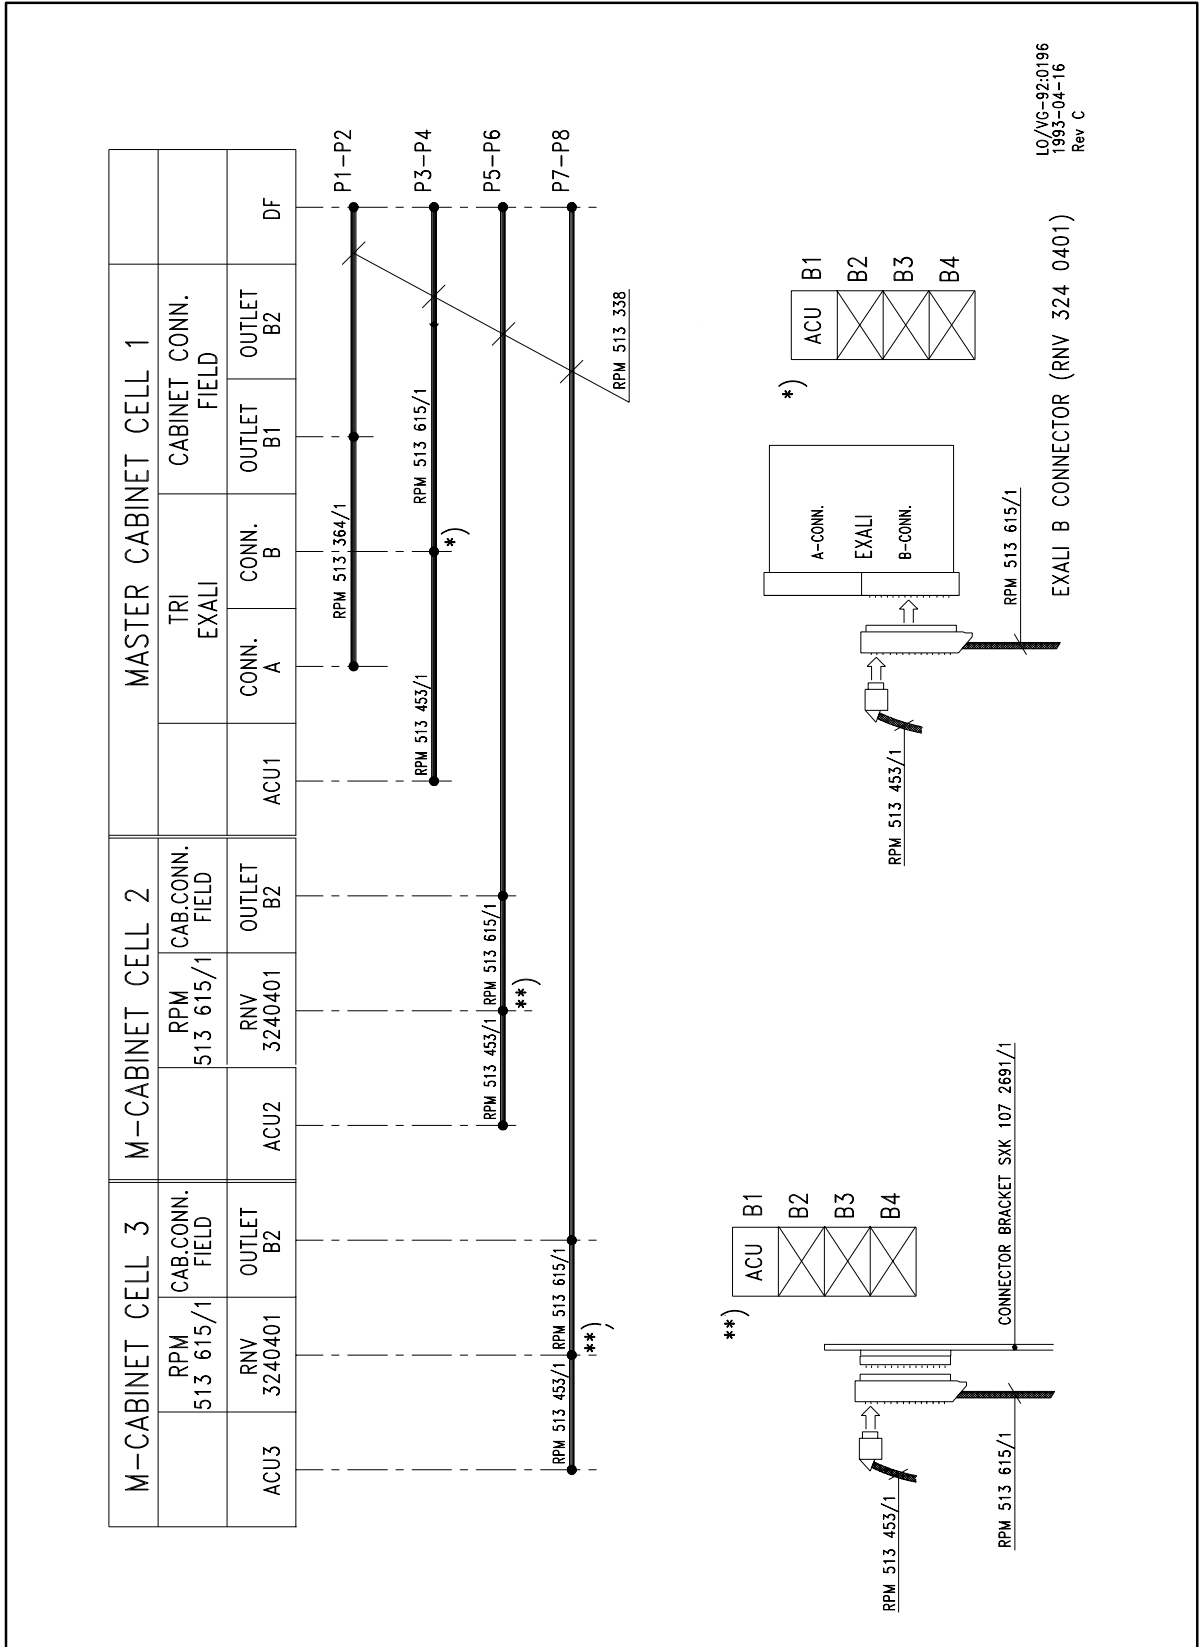

Figure 38 +24 V DC alarm connection cabling diagram
1. Use a prefabricated cable type RPM 513 338 as shown in figure 38. The cable has one end fitted with a connector and the other end free. Total cable length is 15 meters.